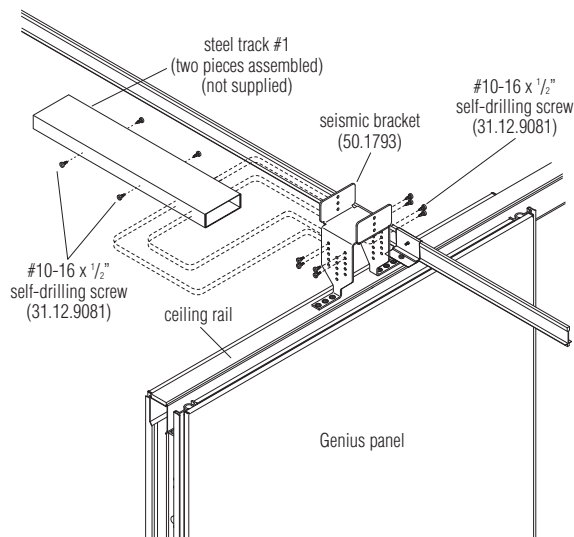

Figure 3 - Off-Center Seismic Bracing - Steel Track #1 to Seismic Bracket
2. Create steel track #1 length first to reach from the installed seismic bracket, over to a location where steel track #3 can reach vertically up to structure above (see Figure 4 for assembly reference). Steel track #1 will be made of two identically cut lengths of track fastened together and will not require any cuts for a bend (Detail B). It must extend horizontally from the seismic bracket to the location where steel track #2 can attach to it. Take into account that steel track #2 will bend up at an angle to the appropriate structure above (see Figure 4 for assembly reference). Once the length is determined for steel track #1, cut two pieces of the track material to equal size and nest them together. The open "channel" sides should be facing each other and will fit together with their side flanges offset from each other (Detail B). Secure both tracks together at the side flanges with #10-16 x 1/2" self-drilling screws (31.12.9081) as illustrated (Figure 3 & Detail C, next page).
self-drilling screws (31.12.9081) (Figure 3). **Note:** Screw quantity will be determined by length of track and site conditions.